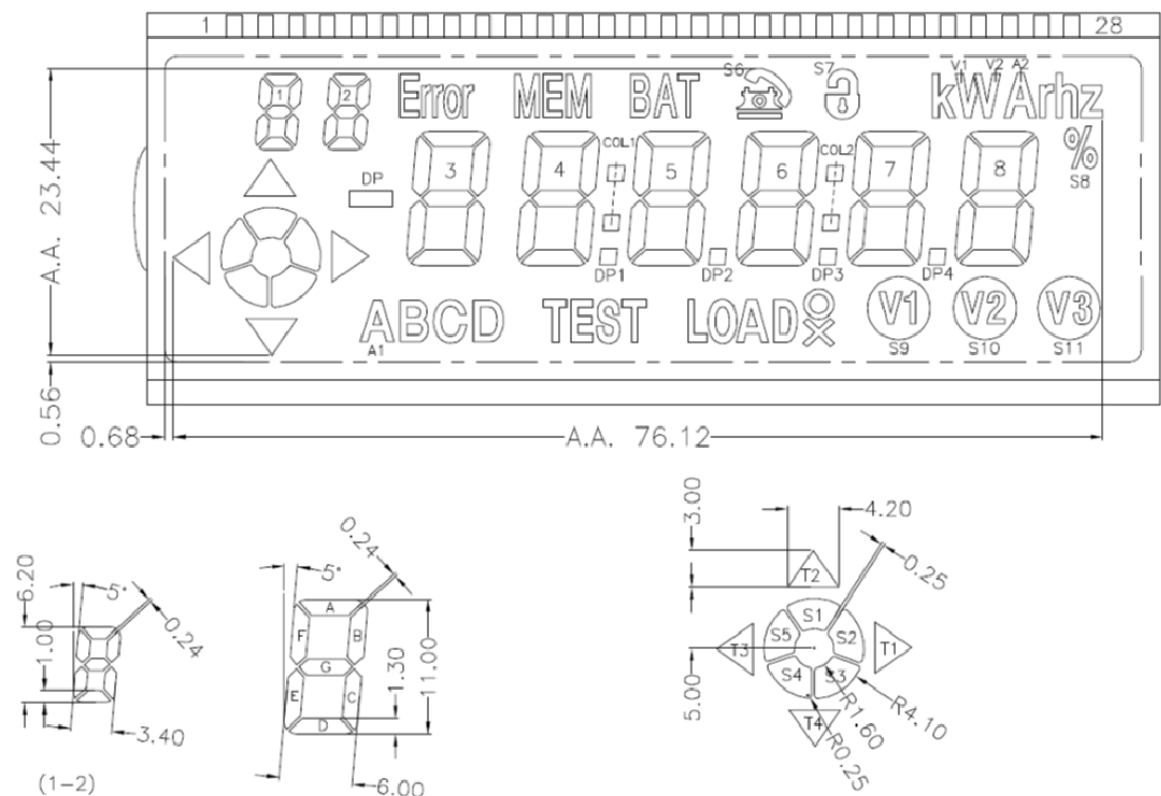

Figure 18-2 LCD Mapping Information
* See Figure 18-2 for the meaning of each SEG.